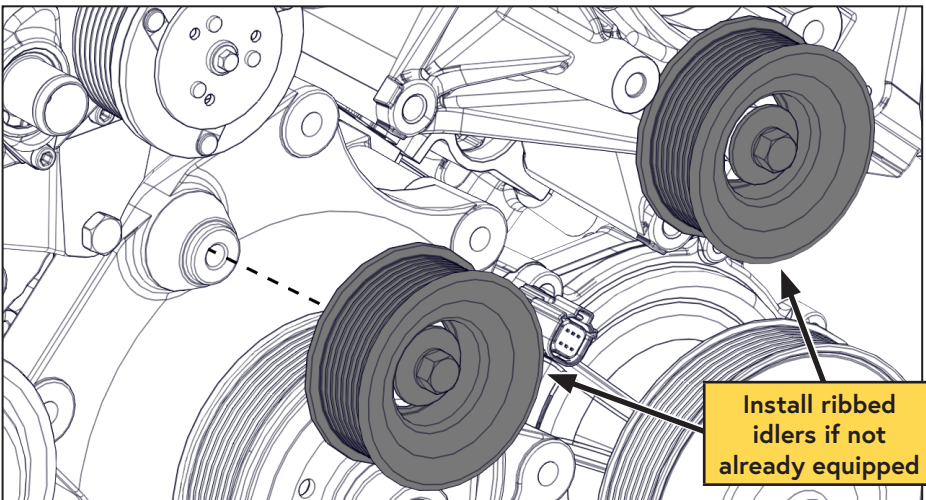

Figure 14 — Reinstall the idler
If the vehicle was equipped with smooth idlers in the locations shown, replace them with the VMAC supplied ribbed idlers (Figure 14).
- Reinstall the idler removed earlier (Figure 14).